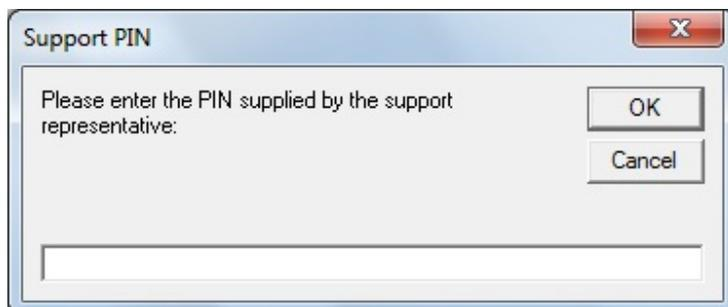

Fig 3-24
1. In the lower left corner of the Manage Printers interface, click [Support] to open the Support PIN window (Fig 3-24).